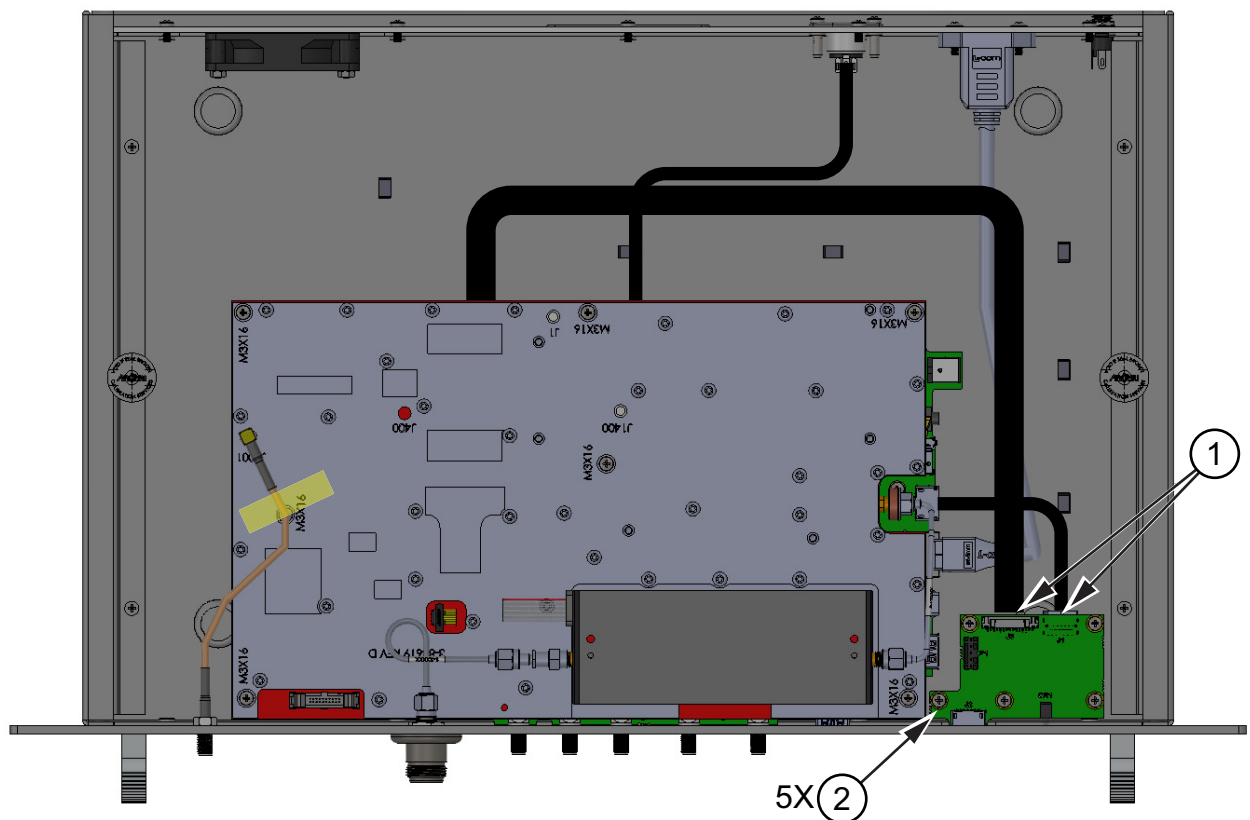

Figure 3-10. PCIe Interface Assembly Removal
2. Remove the white CLIK-Mate cable harness shown at location 1 by pressing the securing latch and pulling the connector out of the socket, then remove the Nano Pitch I/O cable by pulling the connector out of the socket. See Figure 3-10.
3. Using a Phillips screwdriver, remove the five PCIe mounting screws shown at location 2. See Figure 3-10.
4. Remove the PCIe interface assembly from the chassis. See Figure 3-10.